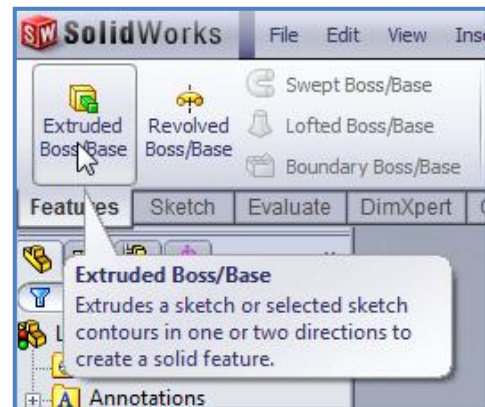

Figure 12
- Click on the Features Tab to display the features tools (figure 12).